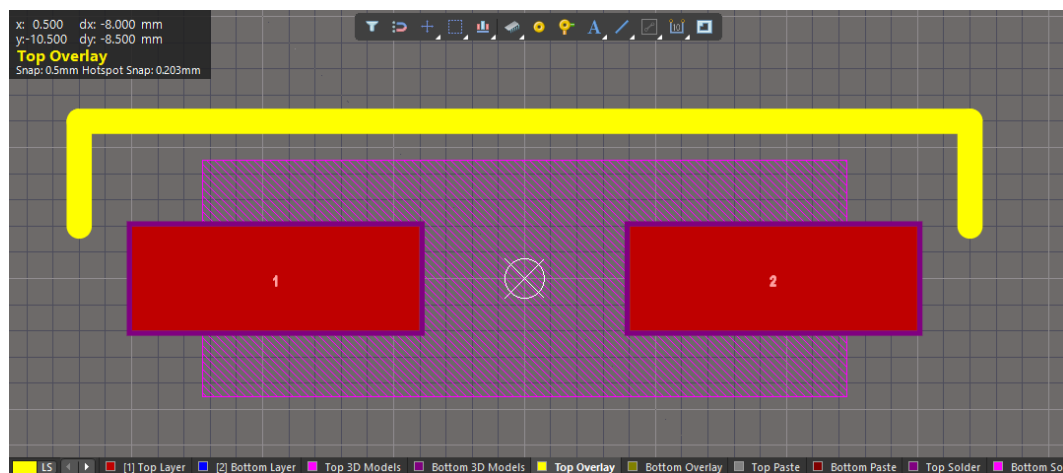

Figure 40. The top portion of the Overlay added to the component
64. Right-click to terminate the line and right-click again to terminate the command. The line should now be similar to what is shown in Figure 40.